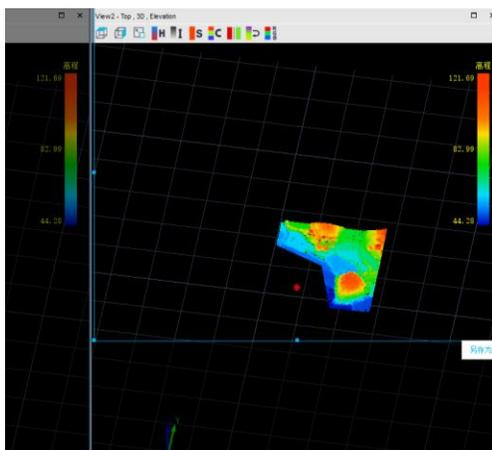

Figure 3-38 View Snipp
- (1) Click the menu <View>→<View Snipping> ✂.
- (2) Press the left mouse button and move anywhere on the screen, draw a rectangular box,.
- (3) Click the <Save As> button to take a screenshot to save (Figure 3-38).